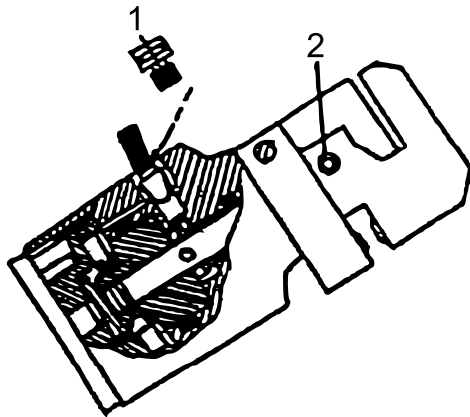

Figure 2
2. If necessary, fill the hydraulic system with high quality hydraulic oil. Remove the oil plug (13), top up with oil, then reinsert the oil plug (13) (see Fig. 2).
3. To adjust the punch, loosen the adjusting screw (2) and turn the tool head. Re-tighten the adjusting screw (2) after you have made the desired setting.